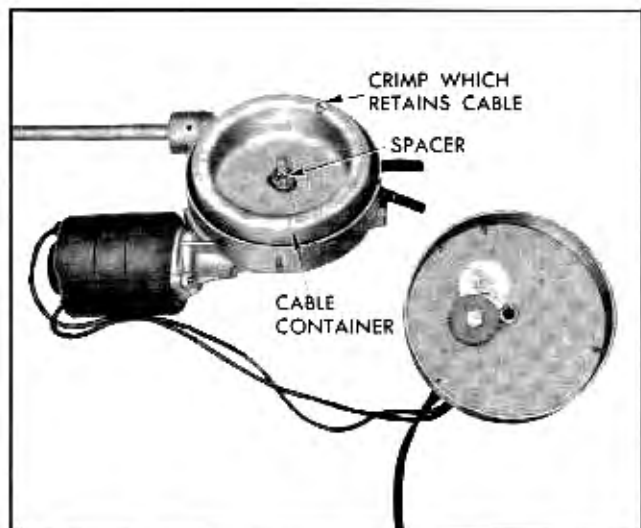

Fig. 14-10 Drive Unit With Cover Removed
4. Remove pulley shaft spacer and cable container (Fig. 14-10) by lifting both off the driving pulley shaft.